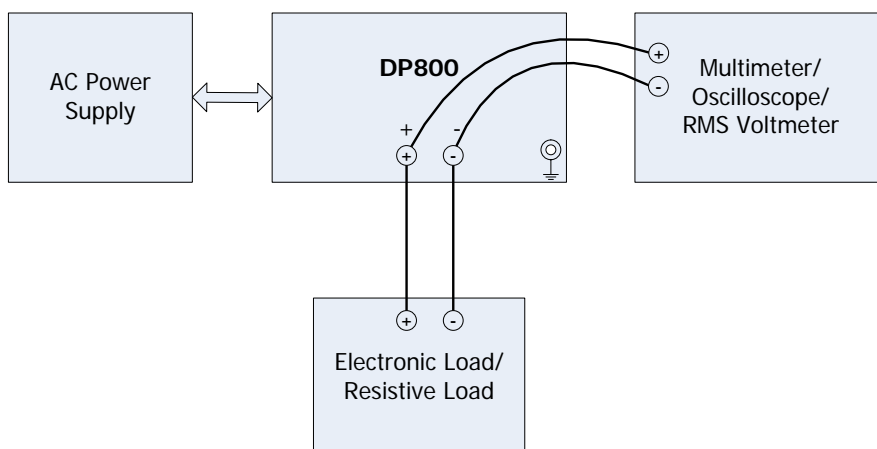
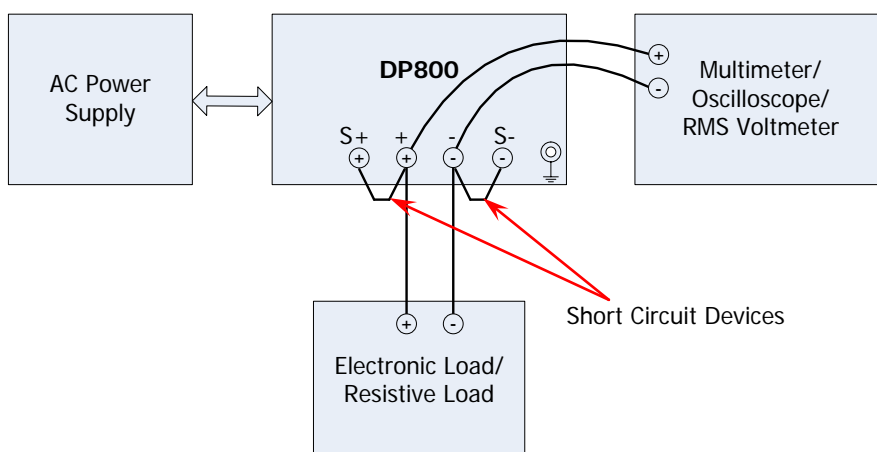

Figure 2-1 CV Test Connections
Figure 2-2 CV Test Connections (Sense)
5. The test connecting wires used should be as short as possible. For the channels that support the Sense function (DP811A/DP811 and CH2 of DP821A/DP821), please short-circuit the (S+) and (+) terminals, (S-) and (-) terminals (as shown in Figure 2-2 or Figure 3-2) of the channels respectively and turn on the Sense function of the corresponding channel before performing the test.
Before performing the tests, select the appropriate voltage via the “voltage selector” at the rear panel of the power supply according to the AC line voltage of the country (230V is taken as an example in all the tests in this manual). Under normal temperature (about 25°C), make connections according to Figure 2-1 or Figure 2-2 using the devices recommended in **“Recommended Test Devices”**. During the test process, please set the voltage of the AC power supply according to the voltage selected of the “voltage selector” at the rear panel of the power supply.
Note: During the CV tests, make connections according to Figure 2-1 for the normal channels (namely the channels that do not support the Sense function) of the DP800 series power supply. For the channels that support the Sense function (DP811A/DP811 and CH2 of DP821A/DP821) make connections according to Figure 2-2 (note to short-circuit the (S+) and (+) terminals, (S-) and (-) terminals of the channel respectively) and turn on the Sense function of the channel during the test process to measure the specifications under Sense mode.
1. Turn off DP800. Connect DP800, AC power supply, electronic load and multimeter according to Figure 2-1. Both the electronic load and multimeter are connected with the channel output terminals of DP800; please refer to “**Test Precautions**” for the connection method. Here, CH1 is taken as an example and the connection method is also applicable to CH2 and CH3.
- For the channels that support the Sense function of DP800 series, please connect DP800, AC power supply, electronic load and multimeter according to Figure 2-2 and turn on the Sense function of the channel after selecting the current channel in step 3.